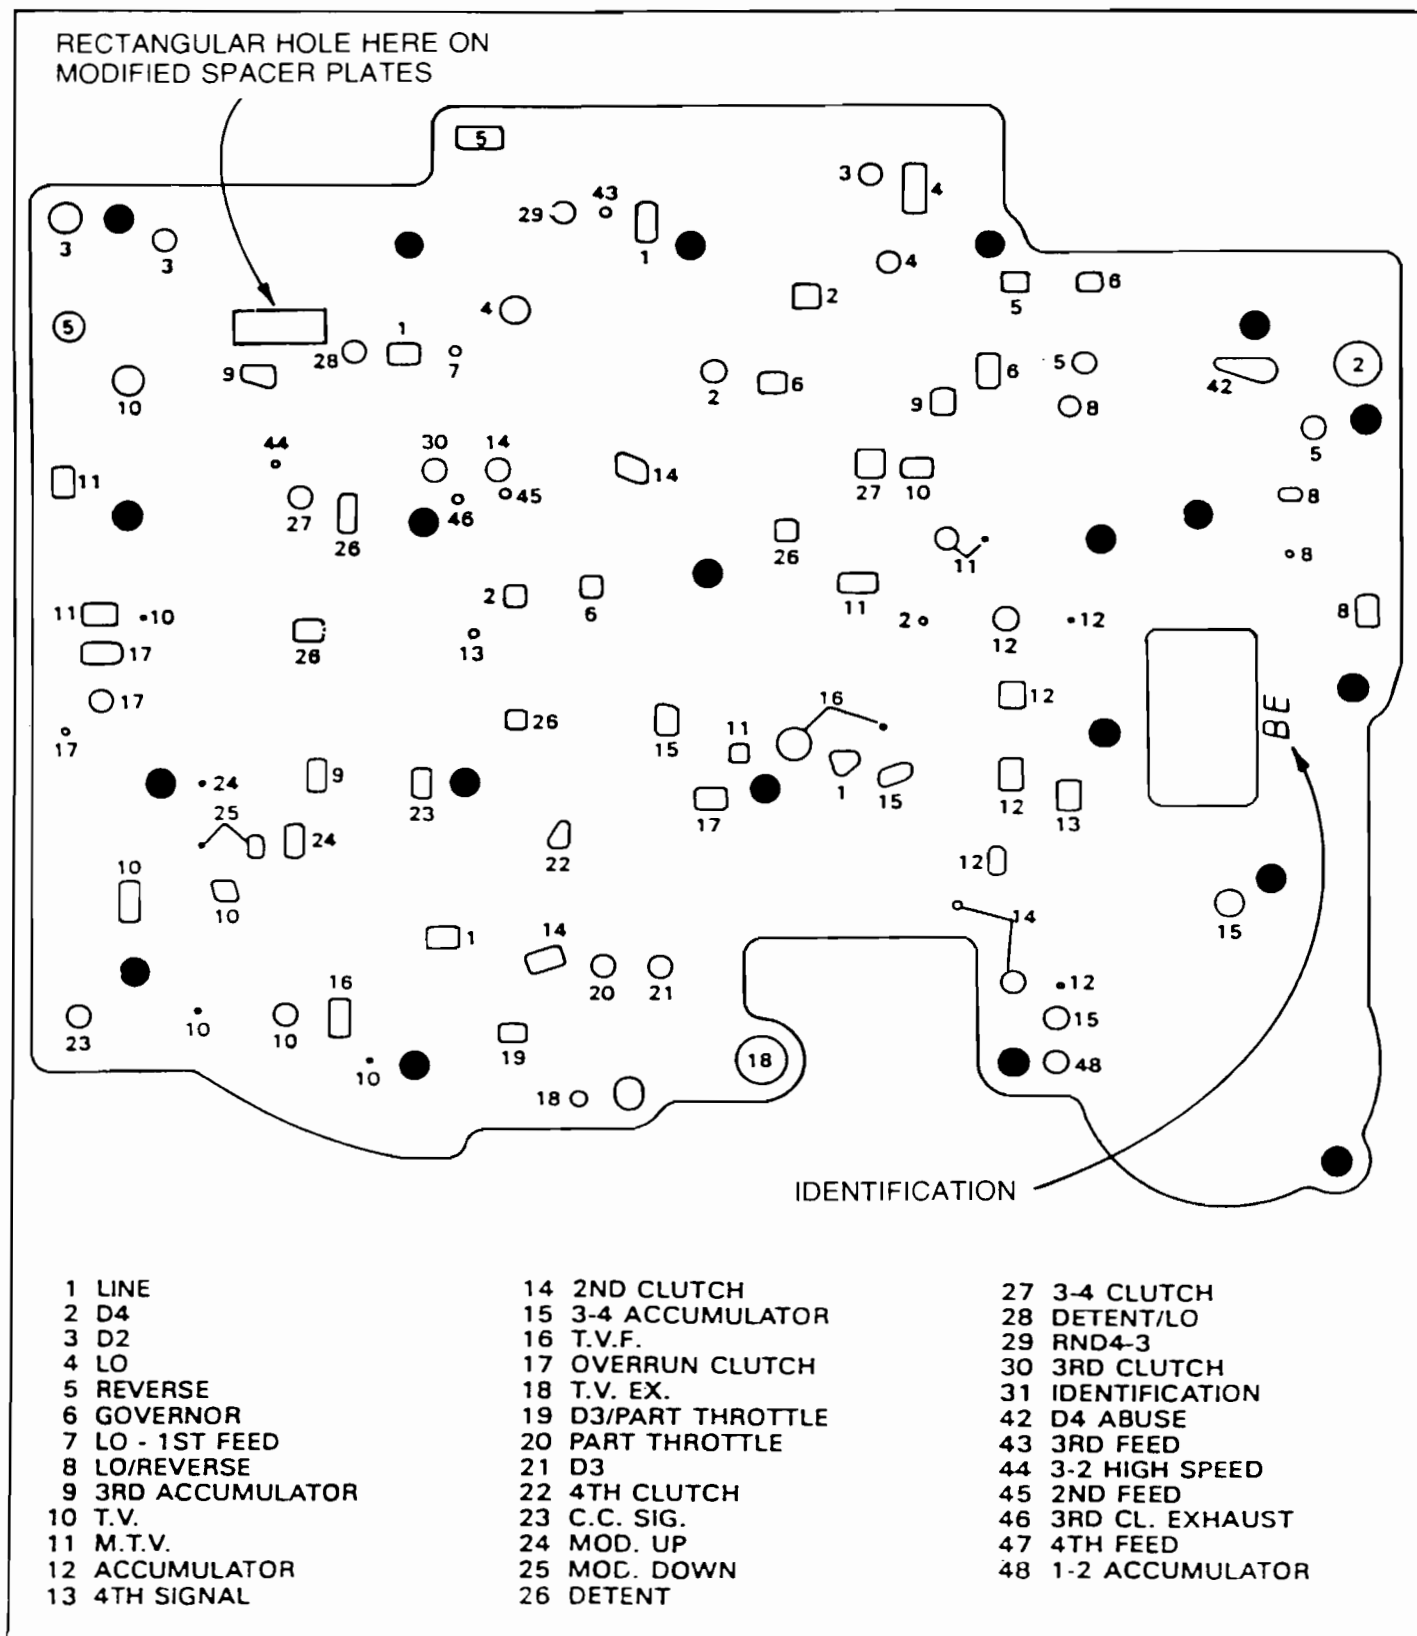
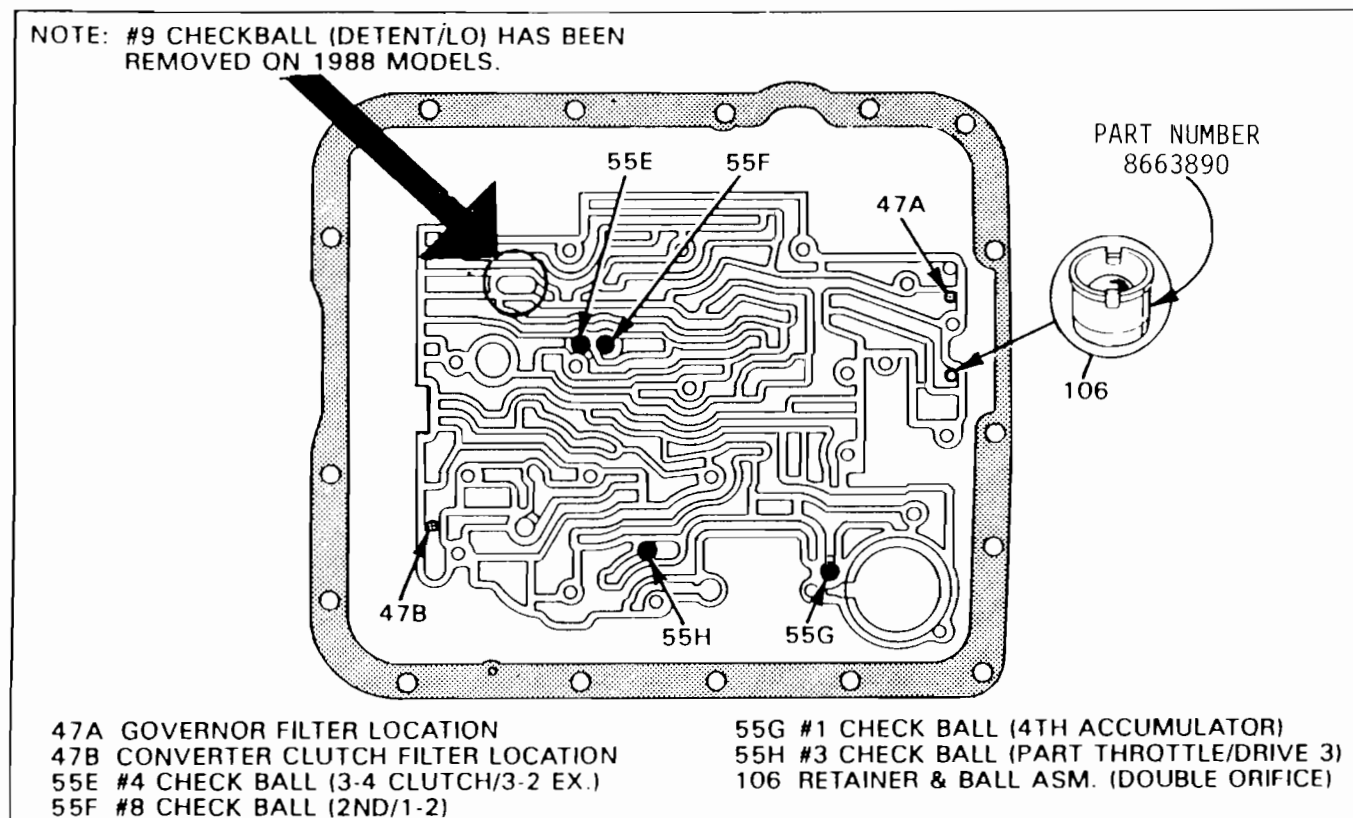

Figure 42
Figure 43
- 1988 – First letter will always be "B" (See Figure 42).
- (4) Number 9 Checkball – The number 9 checkball, located in the case, has been eliminated on all 1988 models (See Figure 43). The spacer plate has been modified, with a rectangular hole, on some models so that even if the technician installs the checkball in a 1988 model, it will be ineffective. (See Figure 42).